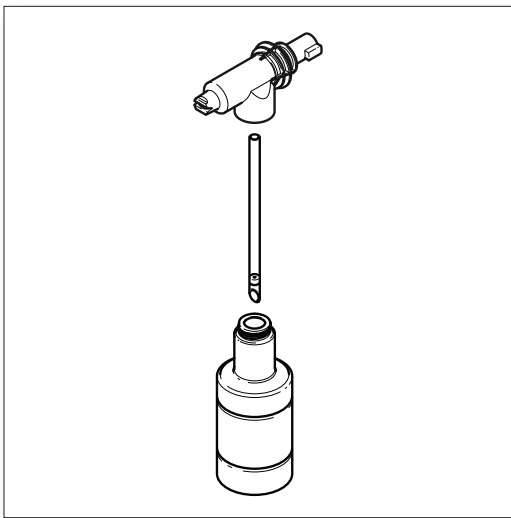
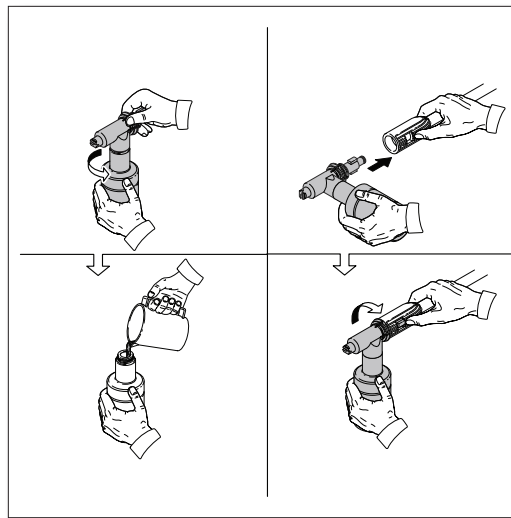

Fig. 11
Fig. 12
- When using the detergent bottle, fill it with a properly formulated detergent or cleaner with a water ratio according to instructions on the container **(Fig. 11)**. The detergent bottles comes with a straw which is fitted into the screw-on top. If you do not see the straw, look inside the bottle and attach it to the screw-on top. **(Fig. 12)**